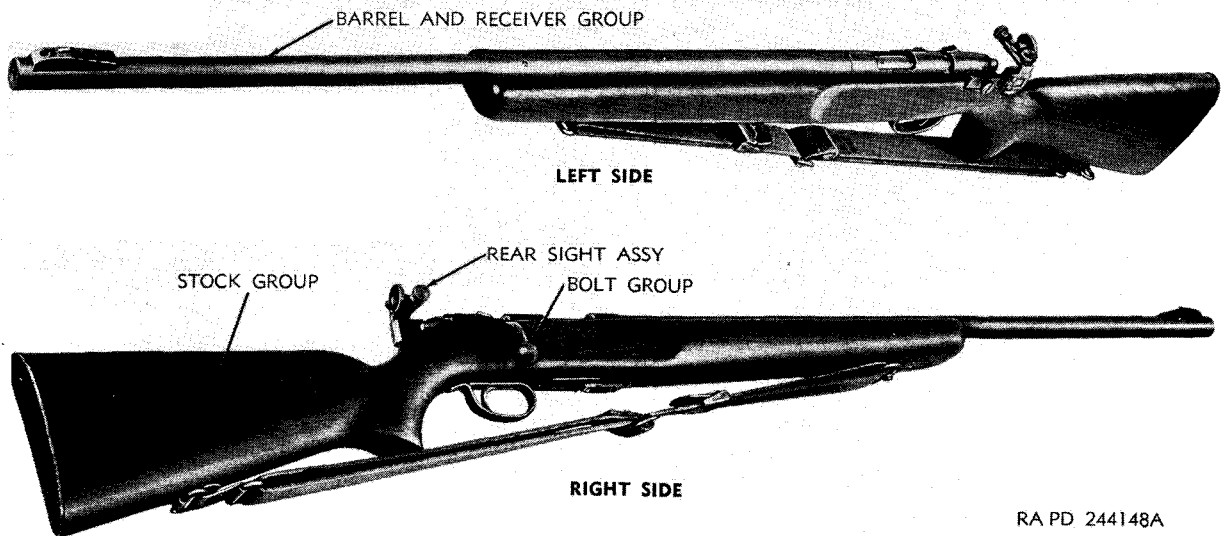
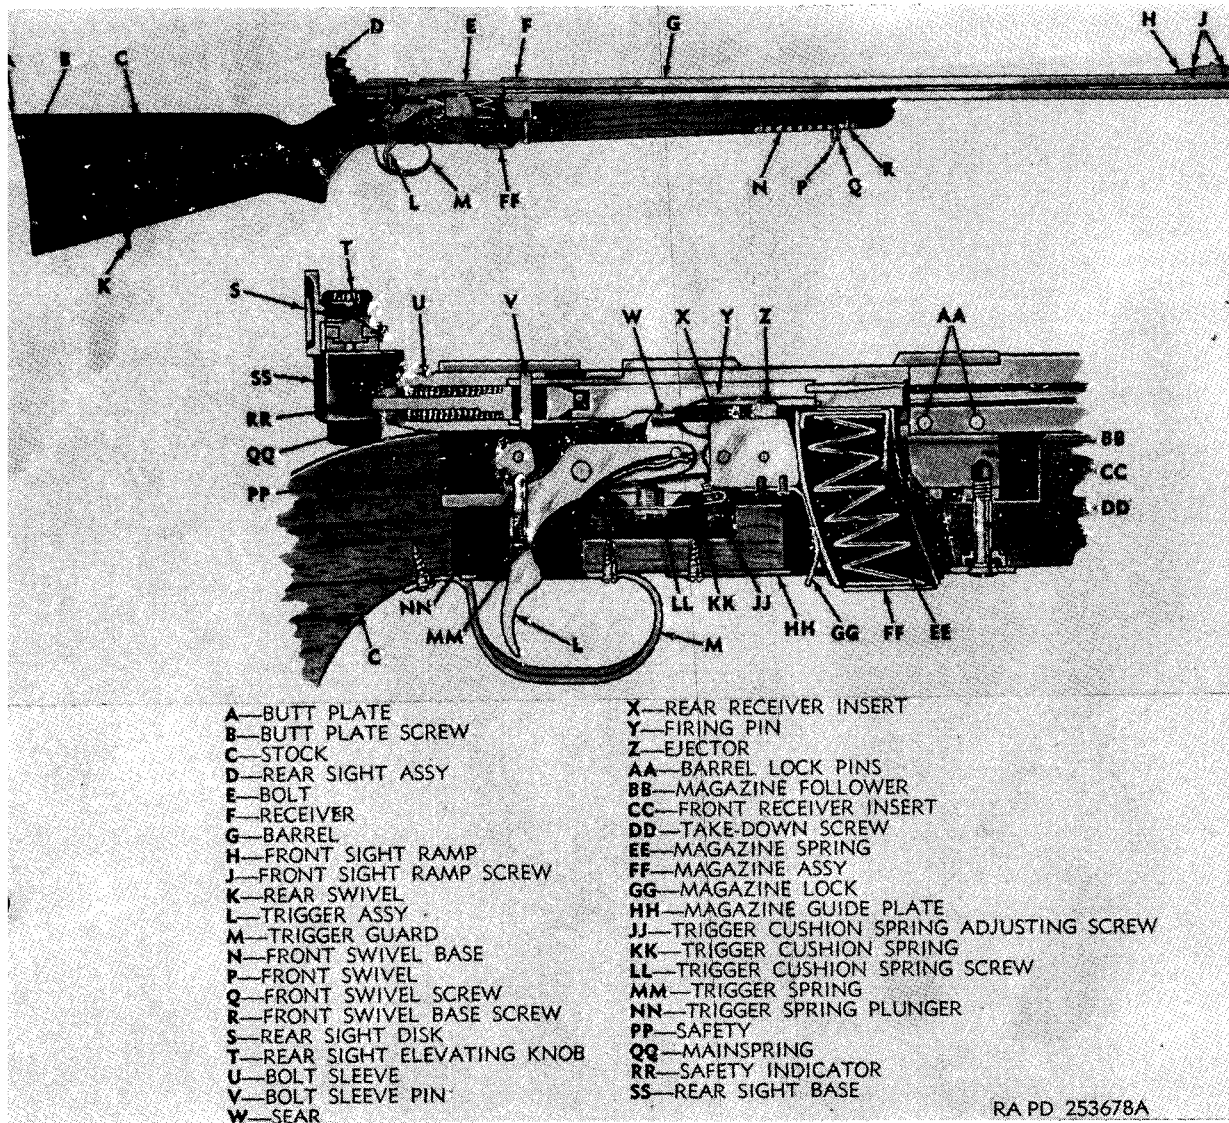

Figure 1. Cal. .22 Remington rifle M513T—left and right side views.
Figure 4. Remington rifle M513T—sectional view.
is issued. It contains information on the operation and organizational maintenance of the cal. .22 Remington rifle M513T (fig. 1), the
- (4) The bolt group of the Remington rifle M513T is not designated as an assembly in the supply manual and is therefore called a group in this technical manual. The bolt group of the Stevens rifle M416-2T is termed "bolt assembly," that of the Winchester rifle M75T is referred to as "breech bolt assembly."
b. *Remington Rifle M513T* (fig. 4). The Remington rifle M513T (figs. 1 and 34) consists basically of a bolt group, magazine assembly, a rear sight assembly, a barrel and receiver group, and a stock group.
Note. The key letters shown below in parentheses refer to figure 4.